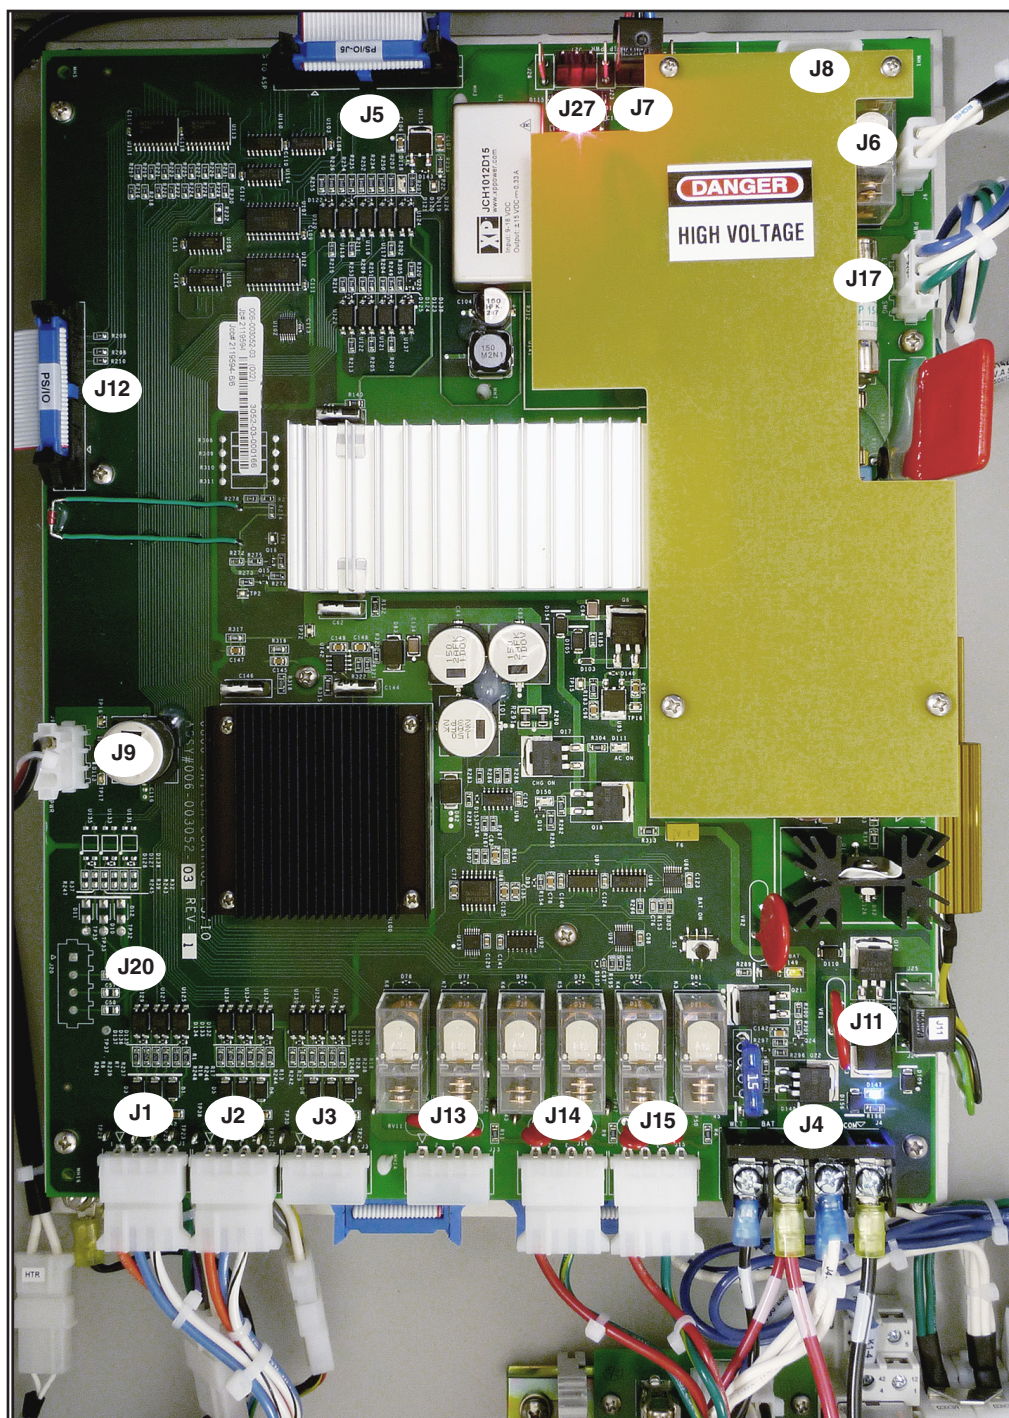

Figure 3. New series PS/IO board connector locations.
Retrofit kits include a new harness, 007-001194-01 REV 012. See Figure 1. If a harness was connected to J7, it will be removed from the three boards and discarded in Step 4(b) on page 11. See Figure 3 on page 9, The new harness will be installed in Step 9(b) on page 14. it will be removed from the three boards and discarded in Step 4(b) on page 11. See Figure 3 on page 9. The new harness will be installed in Step 9-B2.
PS/IO board connectors. See Figure 3 on page 9:
- STEP 4.** Disconnect all cables from the PS/IO board. See Figure 3 on page 9:
**STEP 9.** Reconnect all cables to the PS/IO board. See Figure 3 on page 9: